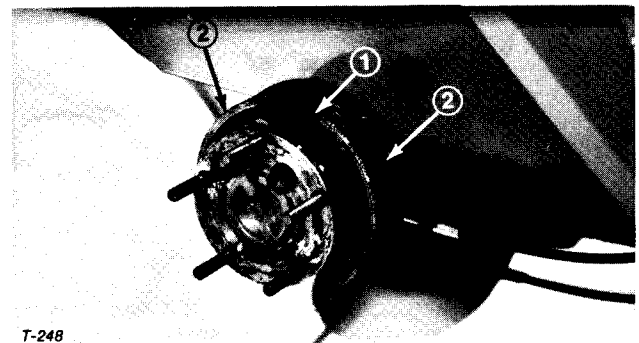

Figure 7
7. Use a brake adjusting tool or a screwdriver to rotate the star nut until the brake drum locks because of outward pressure of the brake shoes (Fig. 7).
9. Install the wheel and tire assembly on the studs with five (5) wheel nuts. Tighten the wheel lug nuts.